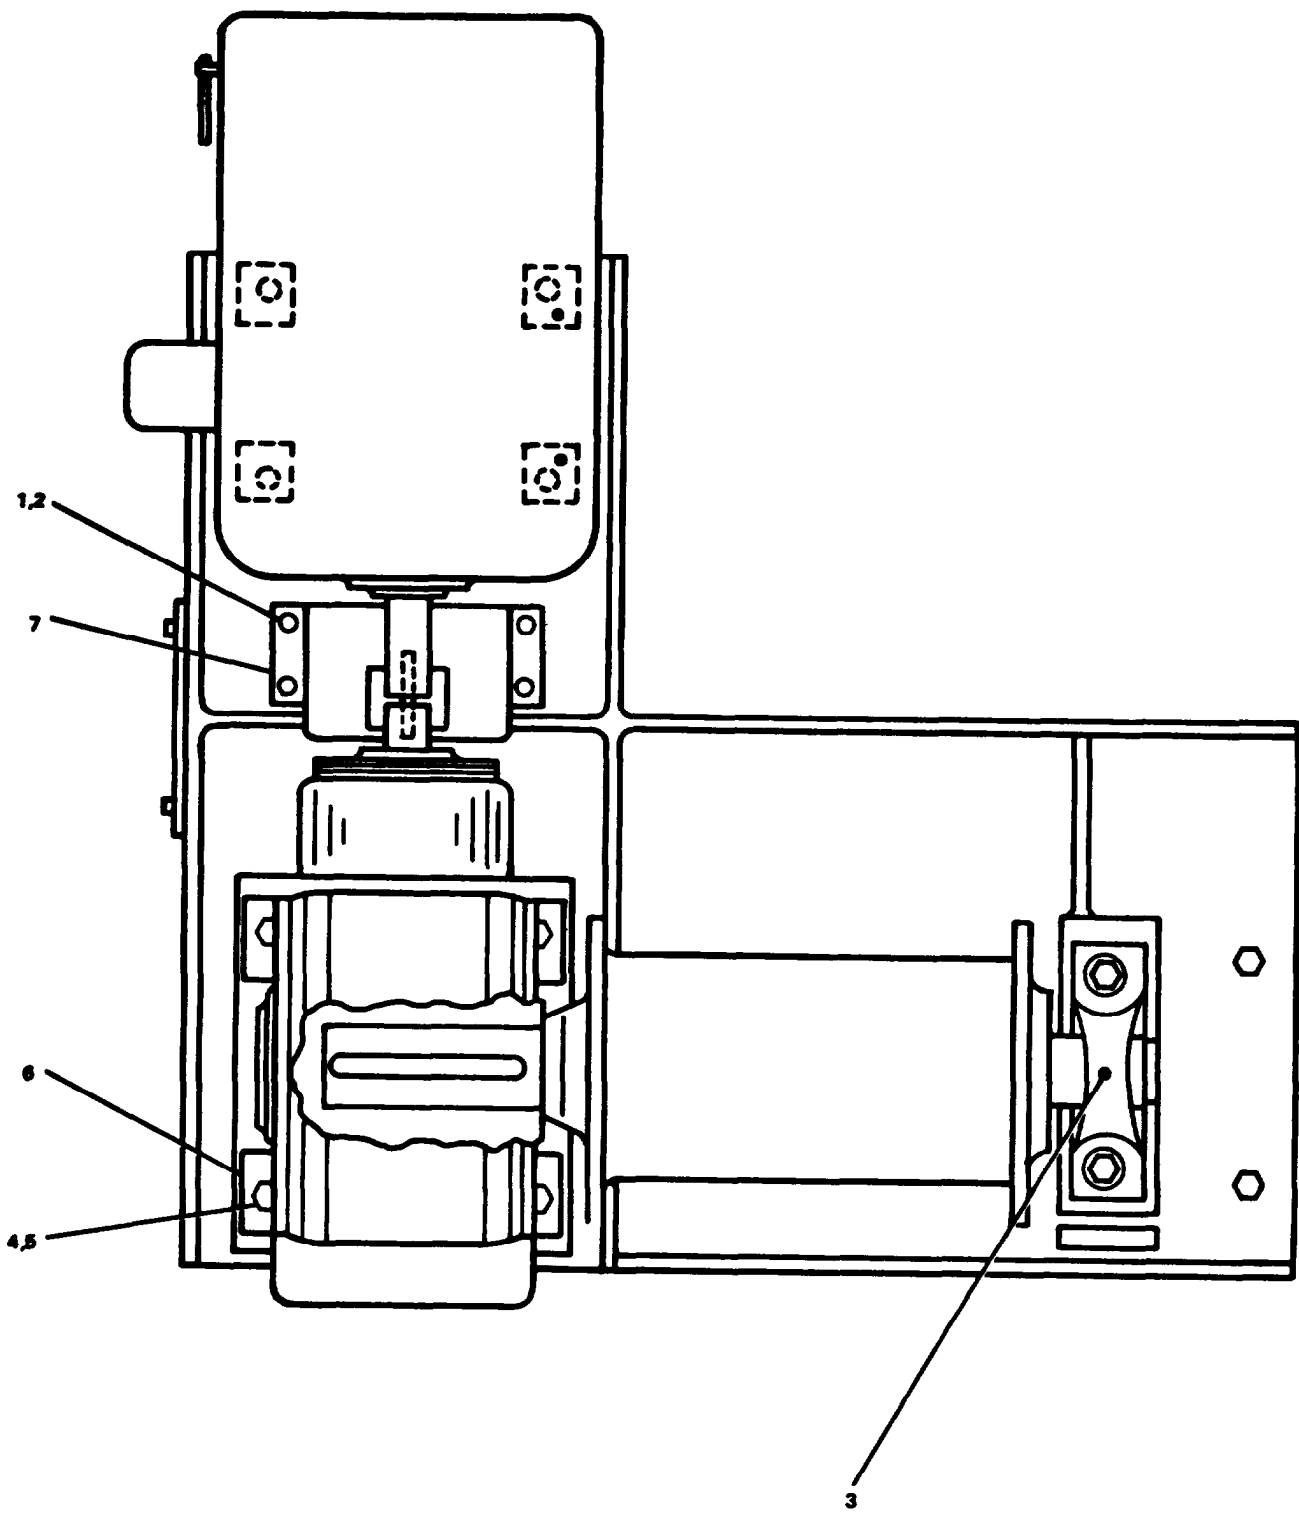

FIGURE 2-189. Repair Winch.
- a. Install motor controller (remote) (5).
- b. Install motor controller (4).
- c. Install conduit box (8) and gasket (9).
- d. Install hexagon capscrews (10) and lockwashers (11).
- e. Install electrical power cable (12).
- g. Attach single leg wire rope assembly (3) to winch assembly (2).
- h. Turn ON electrical power at deck switch (7) and retract wire rope assembly to winch assembly.
**2-219. Repair Winch Assembly. (FIGURE 2-189)**